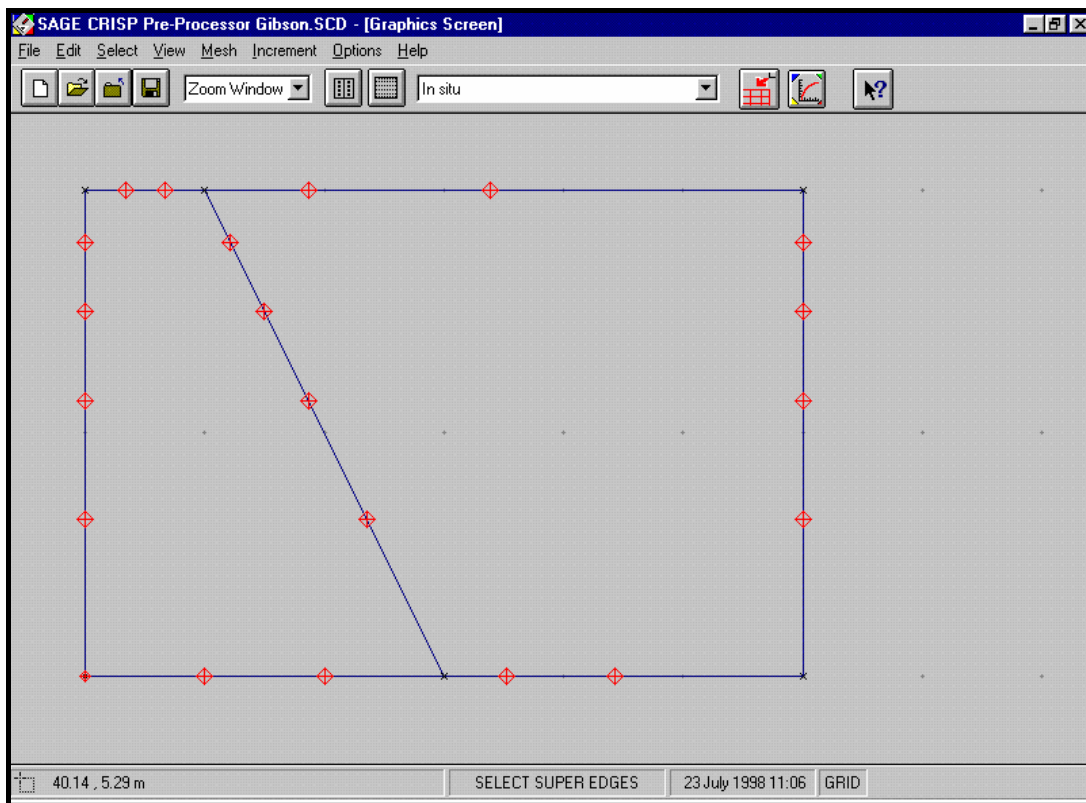

Figure 4-13: Fully Assigned Edge Gradings
Step 14 Opposite edges of each element are always graded in identical proportions, so by defining gradings for just these three edges, all edges in the mesh have been graded. This can be seen from the Graphics Window, which should now look similar to Figure 4-13.